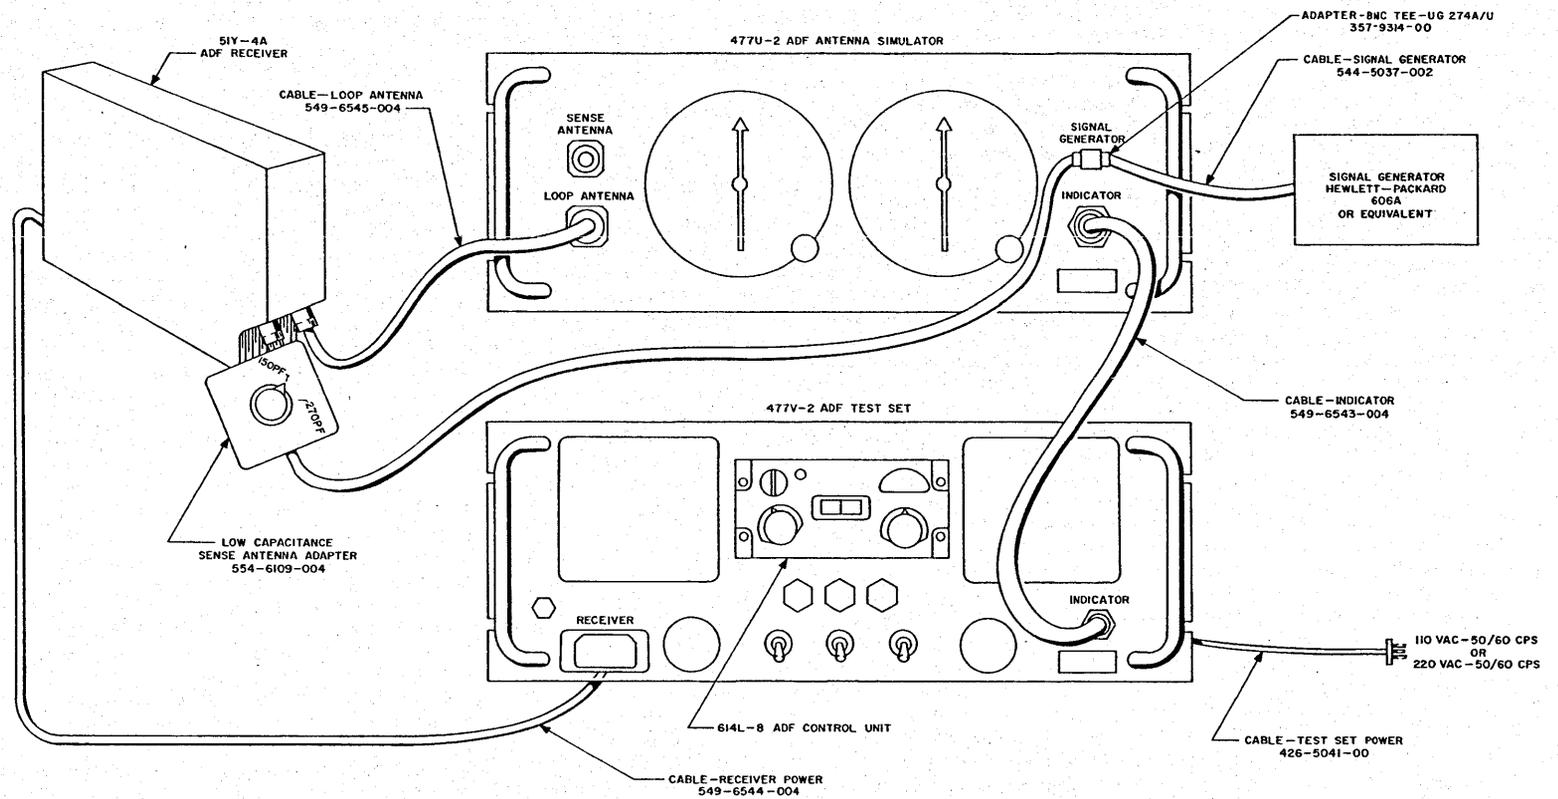

Figure 5-2. 477U-2 Performance Test Setup Using DF-203 Components (51Y-4A ADF Receiver)
- b. Refer to figure 5-1 and interconnect the 477U-2, the signal generator, a 477V-2 ADF Test Set, and a 51Y-4 ADF Receiver that is known to be in good operating condition. Figure 5-2 shows the interconnect configuration for the 477U-2, a signal generator, a 477V-2 ADF Test Set, and a 51Y-4A ADF Receiver.